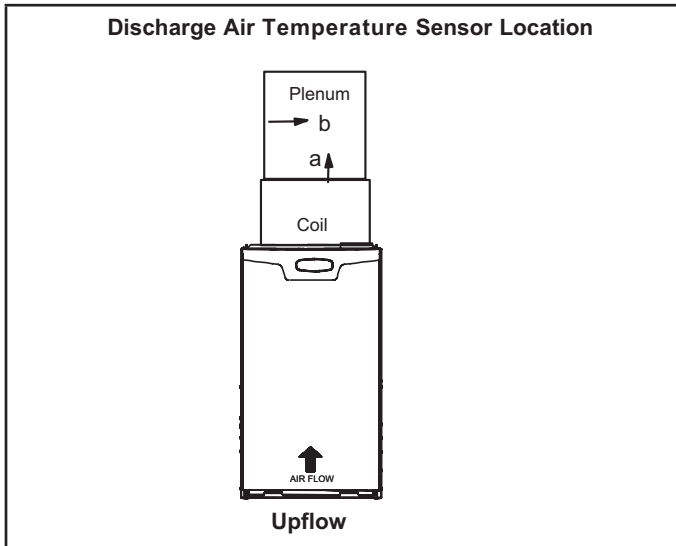

FIGURE 2
- 2 - See tables 1 through 4 and figures 2 through 5 for location of discharge air sensor.